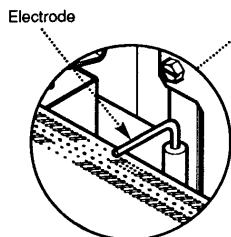

Fig. 21
2. Check that the electrode is sparking to the burner (Fig. 21) when the ignition (☉) button is depressed on the switch at the top right of the appliance.